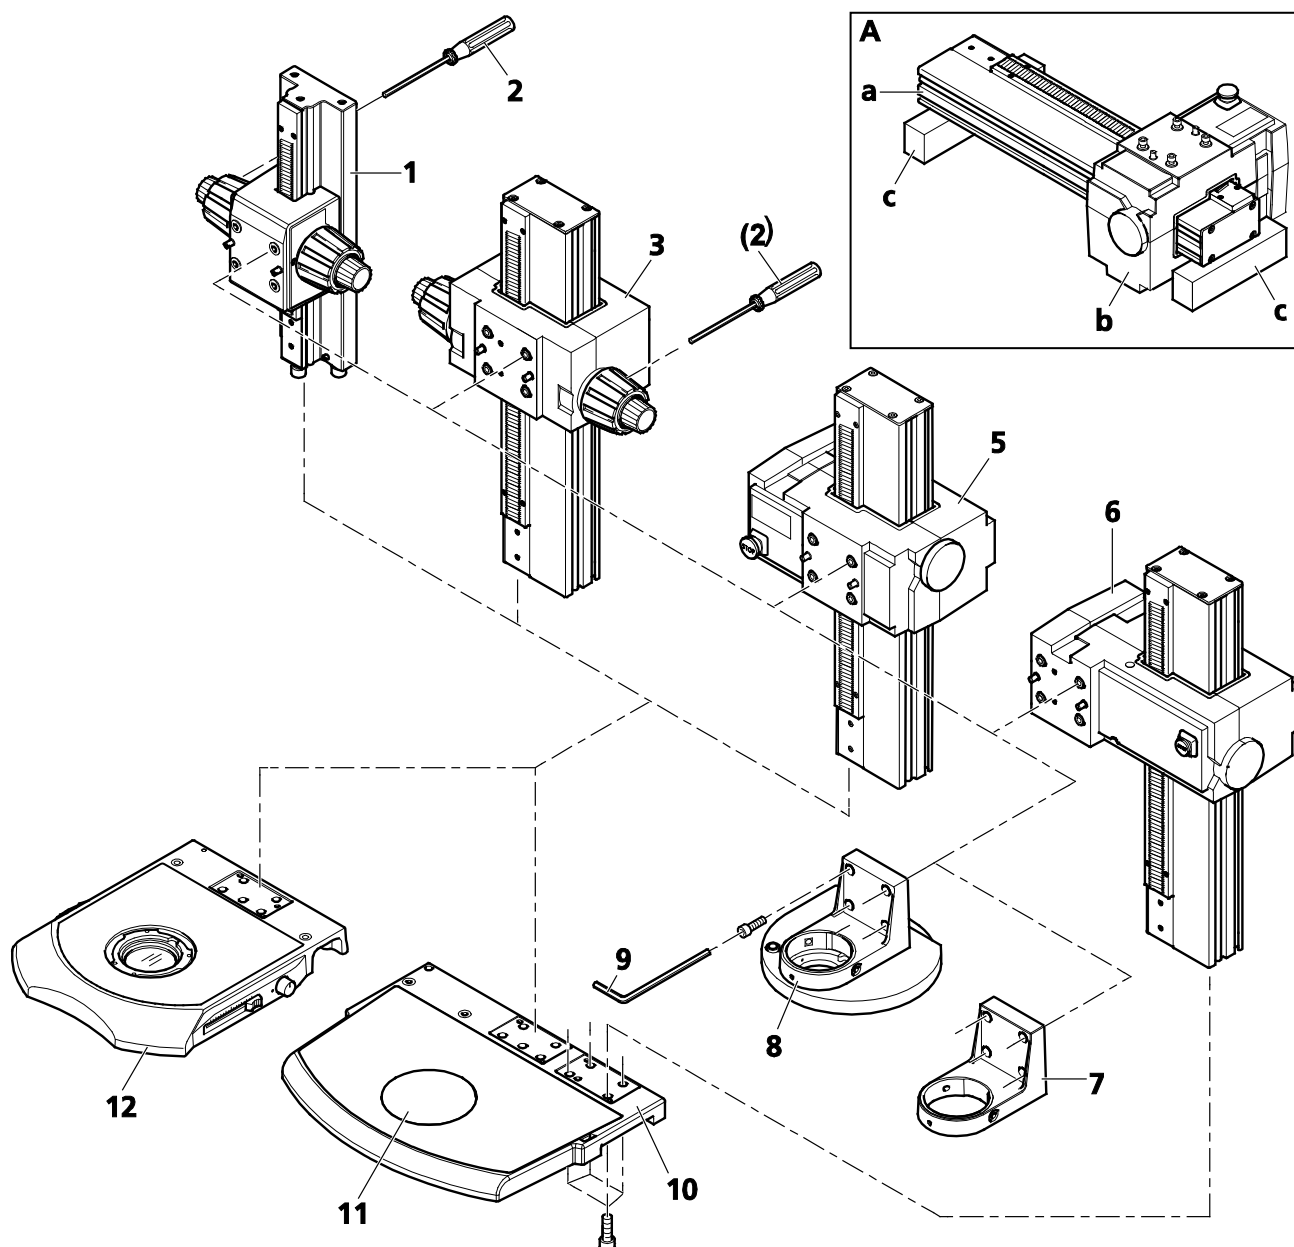

Fig. 5 Setting up the stand
To avoid damage to the motorized focusing drive (e.g. focus motor with profile column 490 mm Fig. 5A), it should only be set down on the **back** of the column (Fig. 5/a) using sufficiently high supporting blocks (Fig. 5/c) (do **not** put it onto the rack side). The focusing unit (Fig. 5/b) of the focusing drive may not be used as a support.
-  The stand base 450 (Fig. 5/10) has two mounting faces for the focusing drive. The mounting face on the right-hand side is only used for the motor focus with profile column 490 mm (Fig. 5/4). The stand base 300 (Fig. 5/12) has on the central mounting face.
- Push the carrier (Fig. 5/7) or nosepiece Z 2x cod. (Fig. 5/8) onto the focusing drive until the orientation screws engage; hold it steady until the first screw has been tightened.
- Tighten all four hexagon socket screws (SW 5) with the Allen key (Fig. 5/9).
-  Install the carrier (Fig. 5/5) rotated by 180° to enable observation of taller samples.
- Insert plate (Fig. 5/11).
-  With a coarse/fine drive with column 490 (Fig. 5/3) the torque-adjusting ring is on the right-hand focusing knob, with a coarse/fine drive with column 350 (Fig. 5/1) it is on the left focusing knob.
- Insert the supplied ball-head screwdriver with SW 3 mm (Fig. 5/2) into one of the radially arranged bores on the torque-adjusting ring.